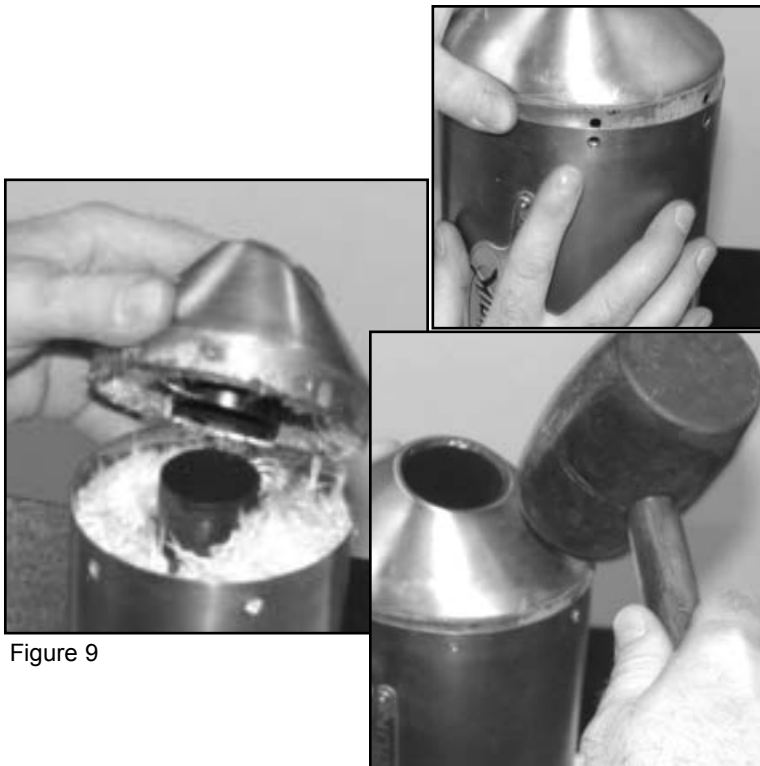

Figure 9
8. Reinstall the end cap. Make certain the holes align. (If necessary use a Rubber Mallet). Figure 9.